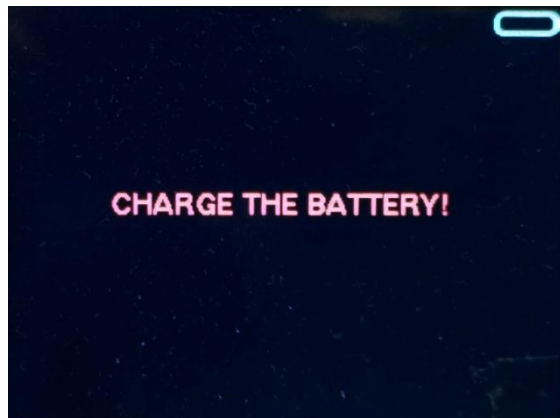

Fig.8.
7.2. If the system battery discharges to an unacceptable level, information will appear on the screen warning about this (see Fig. 8) and further operation will be impossible.